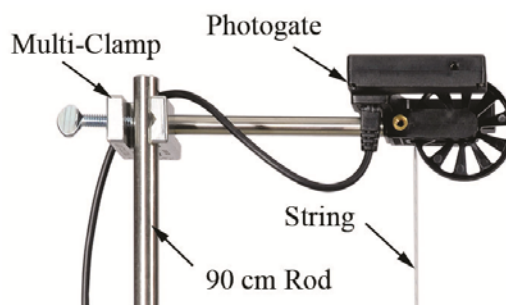

Figure 3: Rods and Clamp
3. Use the multi-clamp (see Fig. 3) to fasten the photogate to the vertical rod. Plug the photogate cord into Digital Input #1.
5. Cut a 1.2 m piece of the braided string and tie loops on each end to hold a mass hanger. Loop the string up and over the pulley as shown in Figure 3.